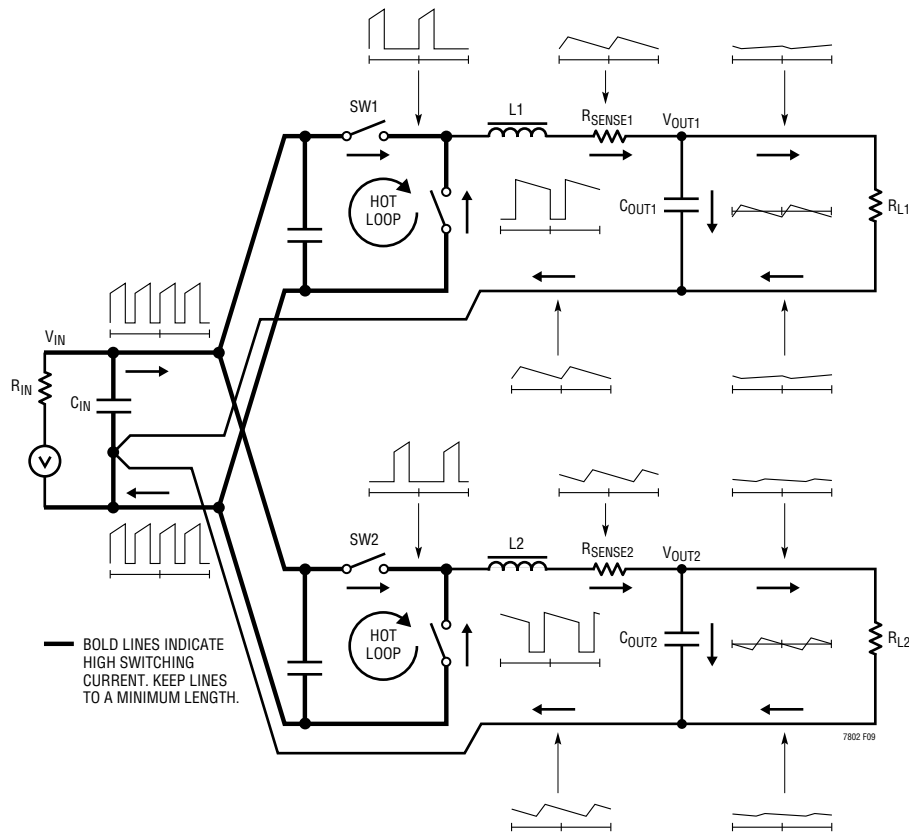

Figure 8. Branch Current Waveforms for Bucks
When laying out the printed circuit board, the following checklist should be used to ensure proper operation of the IC. Figure 8 illustrates the current waveforms present in the various branches of the synchronous regulators operating in the continuous mode. Check the following in your layout:
- Are the signal and power grounds kept separate? The combined IC ground pin and the ground return of $C_{INTV_{CC}}$ must return to the combined C_{OUT} (-) terminals. The area of the “hot loop” formed by the top N-channel MOSFET, bottom N-channel MOSFET and the high frequency (ceramic) input capacitors, as shown in Figure 8, should be minimized with short leads, planar connections, and multiple paralleled vias where needed. The output capacitor (-) terminals should be connected as close as possible to the (-) terminals of the input capacitor.